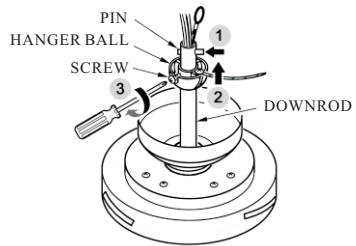

FIG. 4
4. Tighten the pin and screw previously removed and loosened in step 1.(see fig 4)